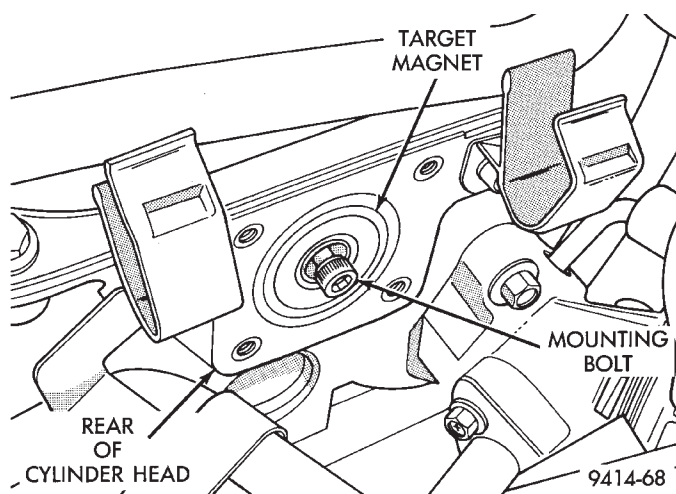

Fig. 47 Target Magnet Removal/Installation
- (1) Disconnect the filtered air tube from the throttle body and air cleaner housing. Remove filtered air tube.
- (2) Remove the air cleaner inlet tube.
- (3) Disconnect electrical connectors from engine coolant sensor and camshaft position sensor.
- (4) Remove brake booster hose and electrical connector from holders on end of cylinder head cover.
- (5) Remove camshaft position sensor mounting screws. Remove sensor.
- (6) Loosen screw attaching target magnet to rear of camshaft (Fig. 47).